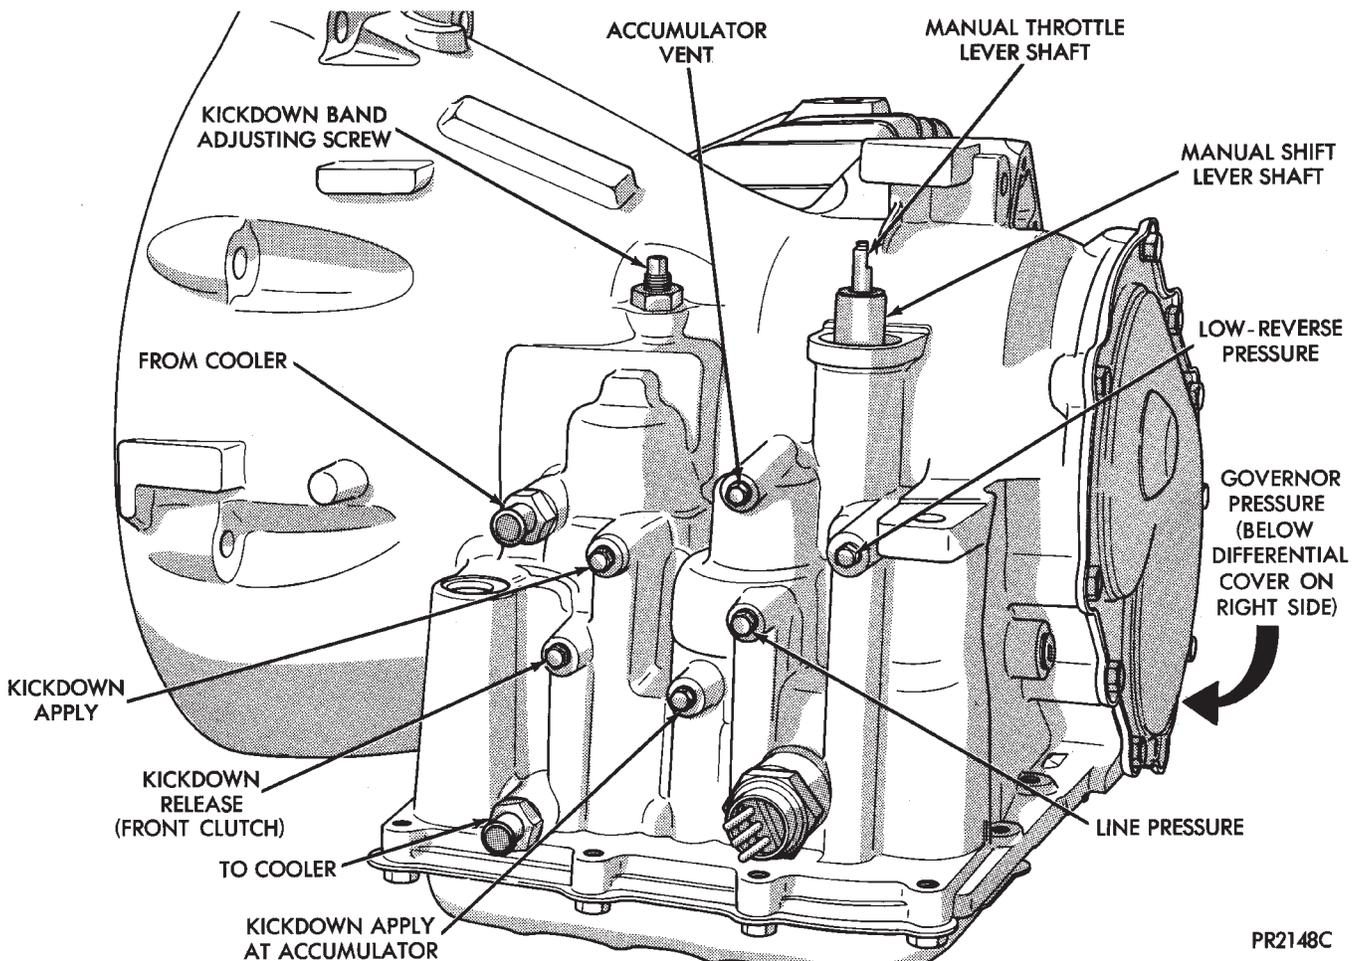

Fig. 2 Transaxle (Left Side)
Test port locations are shown in (Fig. 2).
(1) Attach gauges to **line** and **low-reverse** ports (Fig. 2).
(2) Operate engine at 1000 rpm for test.
(3) Move selector lever on transaxle all the way rearward (**1** position).
(4) Read pressures on both gauges as throttle lever on transaxle is moved from full clockwise position to full counterclockwise position.
(5) Line pressure should read 52 to 58 psi with throttle lever clockwise and gradually increase, as lever is moved counterclockwise, to 80 to 88 psi.
(6) Low-reverse pressure should read the same as line pressure within 3 psi.
(7) This tests pump output, pressure regulation, and condition of rear clutch and rear servo hydraulic circuits.
(1) Attach one gauge to **line pressure** port and **tee** another gauge into lower cooler line fitting. This will allow you to read **lubrication** pressure (Fig 2).
(3) Move selector lever on transaxle one **detent** forward from full rearward position. This is selector **2** position.
(1) Attach gauges to **line** and **kickdown release** ports (Fig. 2).
(2) Operate engine at 1600 rpm for test.
(3) Move selector lever on transaxle two **detents** forward from full rearward position. This is selector **D** position.
(5) Line pressure should read 52 to 58 psi with throttle lever clockwise and gradually increase, as lever is moved counterclockwise to 80 to 88 psi.
(6) Kickdown release is pressurized only in direct drive and should be same as line pressure within 3 psi, up to kickdown point.
(7) This tests pump output, pressure regulation, and condition of rear clutch, front clutch, and hydraulic circuits.
(1) Attach 300 psi gauge to **low-reverse** port (Fig. 2).
(3) Move selector lever on transaxle four **detents** forward from full rearward position. This is selector **R** position.
(4) Low-reverse pressure should read 180 to 220 psi with throttle lever clockwise and gradually increase, as lever is moved counterclockwise to 260 to 300 psi.
(5) This tests pump output, pressure regulation, and condition of front clutch and rear servo hydraulic circuits.
(6) Move selector lever on transaxle to **D** position to check that low-reverse pressure drops to zero.
(7) This tests for leakage into rear servo, due to case porosity, which can cause reverse band burn out.
(1) Connect a 0-150 psi pressure gauge to governor pressure take-off point, located at lower right side of case, below differential cover (Fig. 2).
(2) Operate transaxle in third gear to read pressures. The governor pressure should respond smoothly to changes in mph and should return to